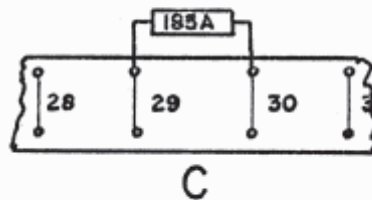

FIGURE 4.
m. Route the 193647 Cable Assembly along with the 162370 Cable Assembly from the auxiliary cabinet terminal blocks to the cabinet terminal blocks. Connect the green wire from terminal C11 to C59, and connect the black wire from terminal C9 to C58, as shown in Figure 4.
r. Route the 193648 Cable alongside of the 157158 Cable (part of the 157157 Busy Light Modification Kit) to the standard and auxiliary cabinet terminal blocks. Tie the 193648 Cable as necessary. Connect the white lead to terminal C40, and connect the purple lead to terminal C45, as shown in Figure 4.
s. Connect the 178535 Network to terminals C29 and C30. See Figure 4.
u. Connect cabinet terminal C13 to C11 instead of to C9. See Figure 4.